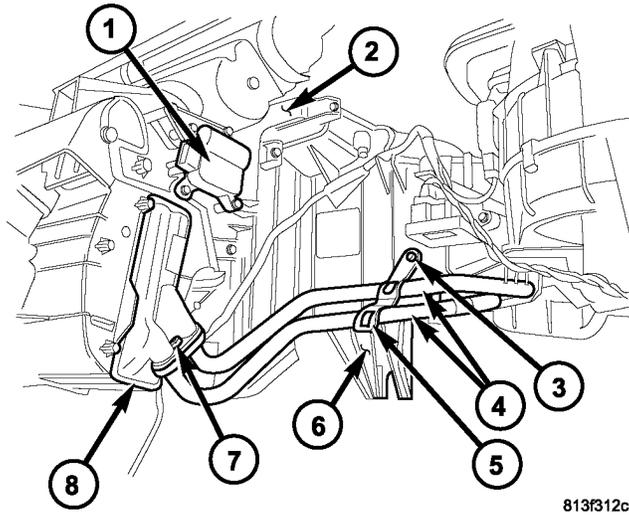

Fig. 1 Heater Core
1. Gain access to the heater core (8) by removing the passenger lower knee panel (Fig. 1).
3. Remove blend door actuator (Fig. 1).